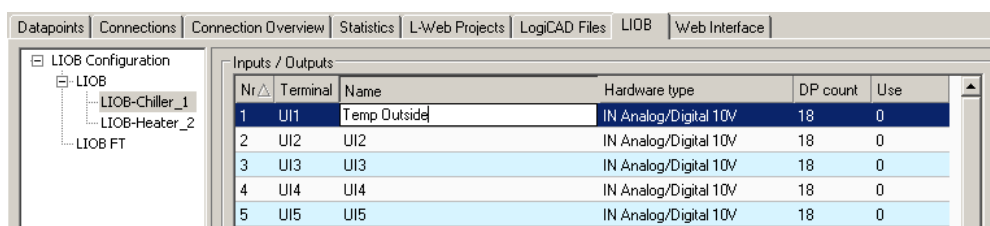

Figure 12: Change L-IOB terminal names for your installation.
- Select a L-IOB device in the tree on the left-hand side and enter names for the terminals by double-clicking into the **Name** column as shown in Figure 12.